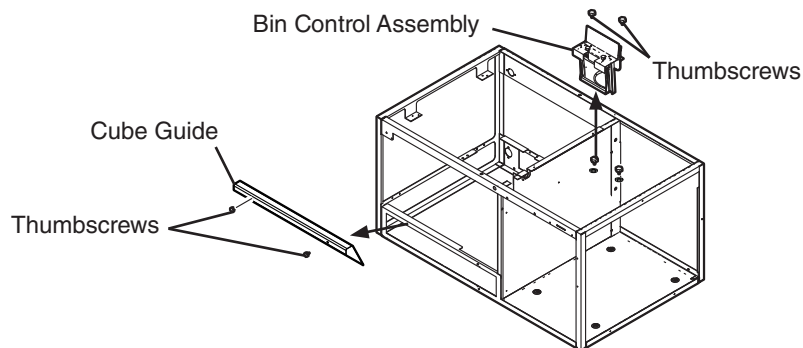

Fig. 5
- 13) Remove and discard the bin control assembly (bin control switch and bin control mounting bracket) and thumbscrews. Remove the cube guide and thumbscrews. Discard the cube guide. Retain one of the thumbscrews for use later in these instructions. See Fig. 5.